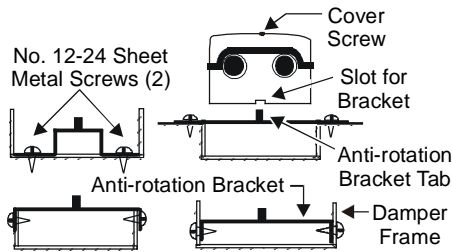

Figure 2: Anti-rotation Bracket Positions
- Bend or cut the anti-rotation bracket to fit the damper frame or duct as shown in Figure 2.
- Insert the anti-rotation bracket tab into the slot at the bottom of the actuator (shown in Figure 2), and slide the actuator onto the shaft.